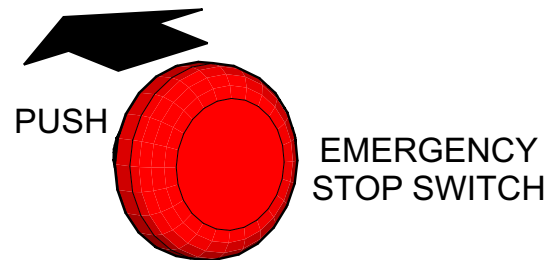

Figure 26. Emergency Stop Switch (Push)
1. Push the **EMERGENCY STOP** switch (Figure 26).